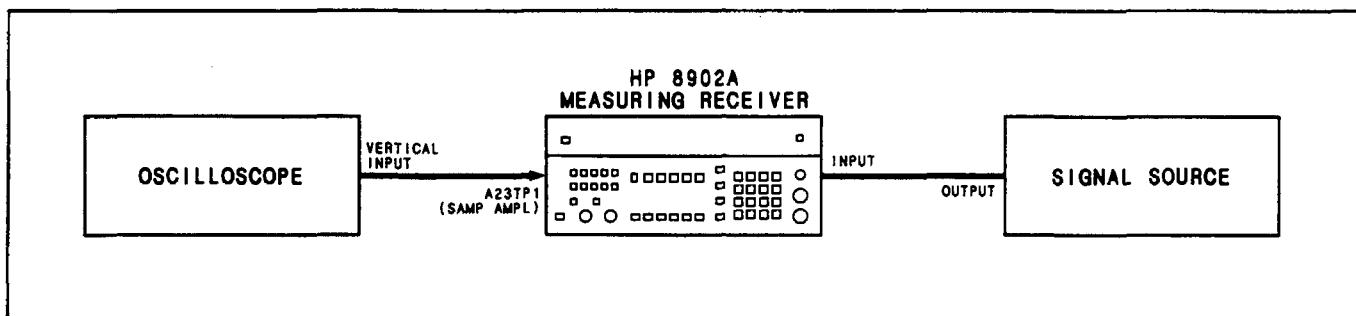

Figure 5—2. Sampler Efficiency and Offset Adjustment Test Setup
2. Connect the equipment as shown in Figure 5—2. (The oscilloscope input should be ac coupled. The signal source can be connected either to a sensor module or directly to the Measuring Receiver's INPUT.)